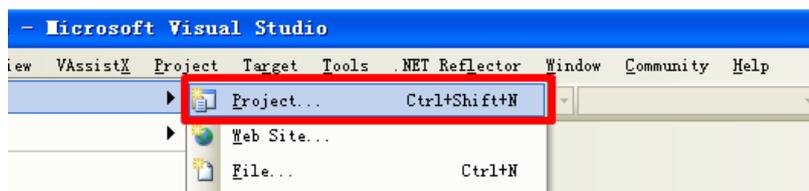

Figure6.1-10
1) You need to select the programming platform for the first time to open VS2005, and to create a new project when using VS2005. Click **File** → **New** → **Project**, as shown in Figure6.1-10:
3) Select **Smart Device** under **New Project** window, then select **MFC Smart Device Application** in **Templates** and input **project name** (such as 1Dbarcode), as shown in red sections in Figure6.1-10.